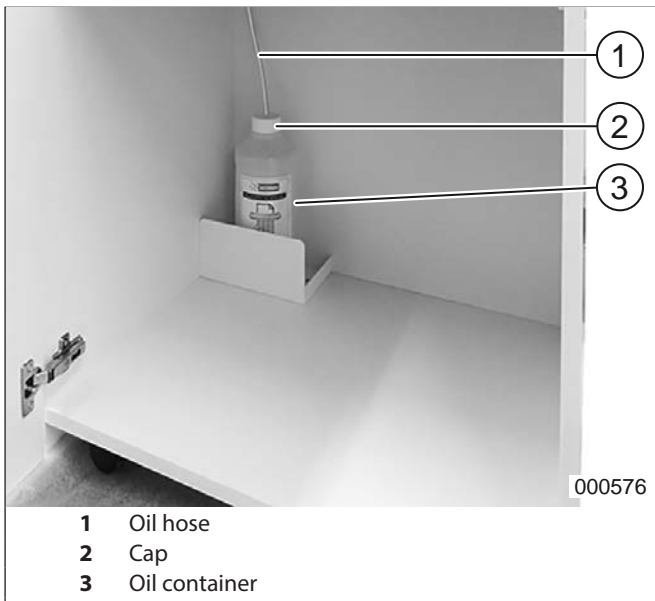

fig.6 Oil container
If the control display  (fig. 2/7) flashes, this usually means that the oil container (fig. 6/3) is empty and must be replaced with a full container. The motor switches off.
2. Release the screw cap (fig.6/2), take the oil hose with the screw cap out of the empty container and remove the container.
3. Suspend the full container and remove the screw cap. Feed the oil hose (fig.6/1) into the container and close the container again with the screw cap that is connected to the oil hose.